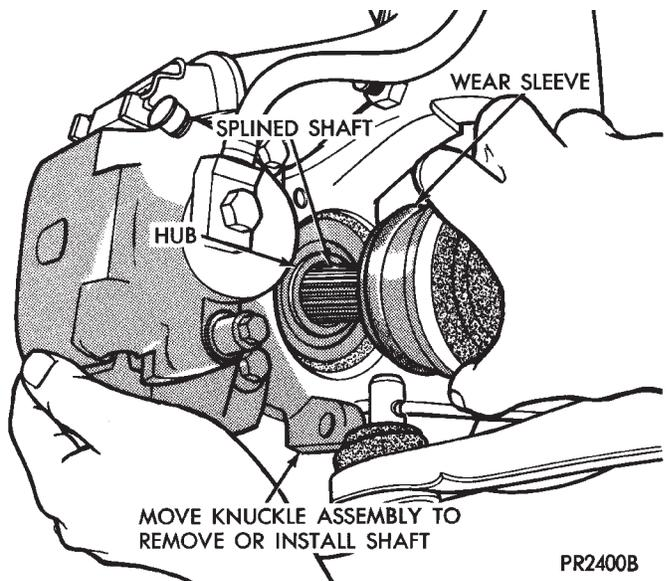

Fig. 9 Separate Outer C/V Joint Shaft from Hub
(4) Separate outer C/V joint splined shaft from hub by holding C/V housing while moving knuckle(hub) assembly away (Fig. 9).